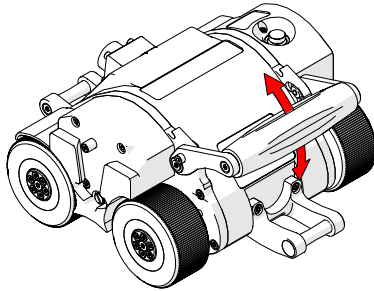

Fig. 43 - Pivot handle as desired
2. Pivot the handle as required (*Fig. 43*).